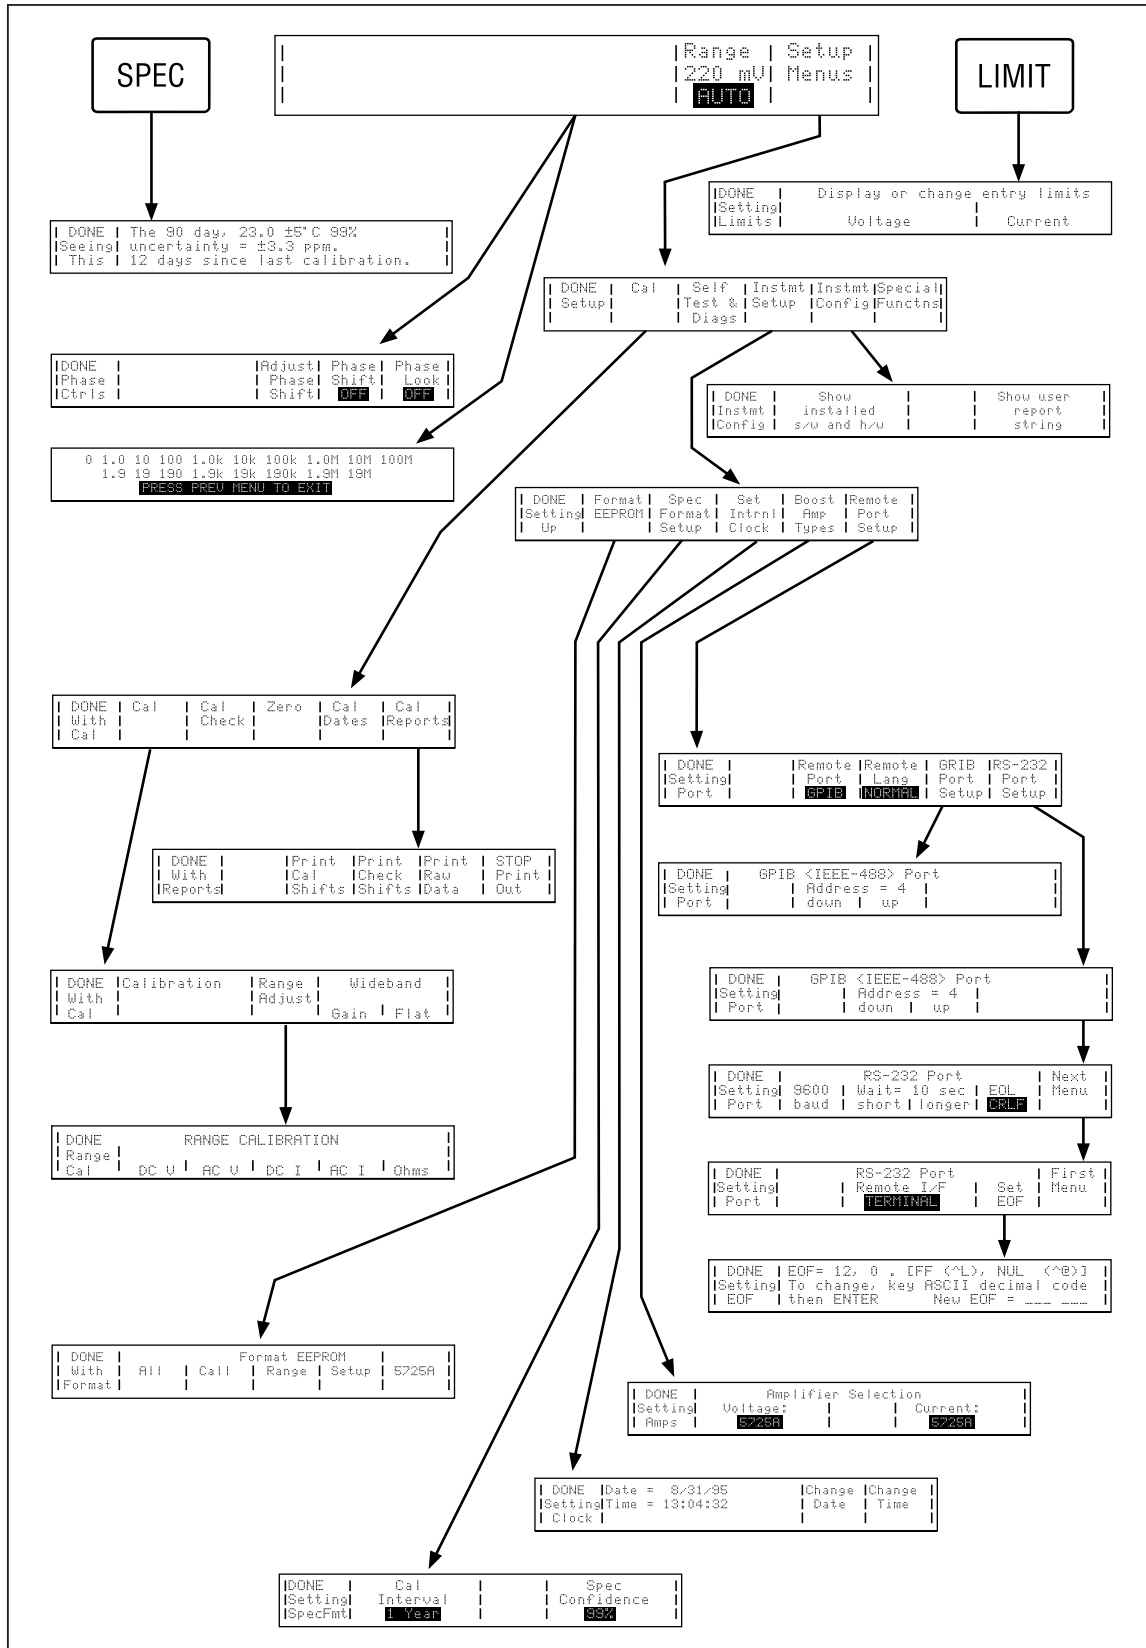

Figure 8. Softkey Menu Tree
<p>② Control Display</p>	<p>An alphanumeric vacuum-fluorescent display that shows data entries, UUT error adjustments, menus, and other prompts and messages. Each menu contains a set of softkey labels that identify the functions of the softkeys directly below them. The changing menus provide access to many different functions through the five softkeys plus the  key. (See Figure 8, Softkey Menu Tree.)</p>
<p>9</p> <p>Softkeys</p>	<p>The functions of the five unlabeled softkeys are identified by labels on the Control Display directly above each key. The functions change during operation so that many different functions are accessible through these keys. A group of softkey labels is called a menu. A group of interconnected menus is called a menu tree. Figure 8 shows the menu tree for the calibrator.</p>
The functions of the six softkeys described under “Front Panel Features”, are represented by menus containing labels displayed directly above each key. These functions change whenever you access a new menu. Figure 8 shows the hierarchy of all the menus available for the calibrator.